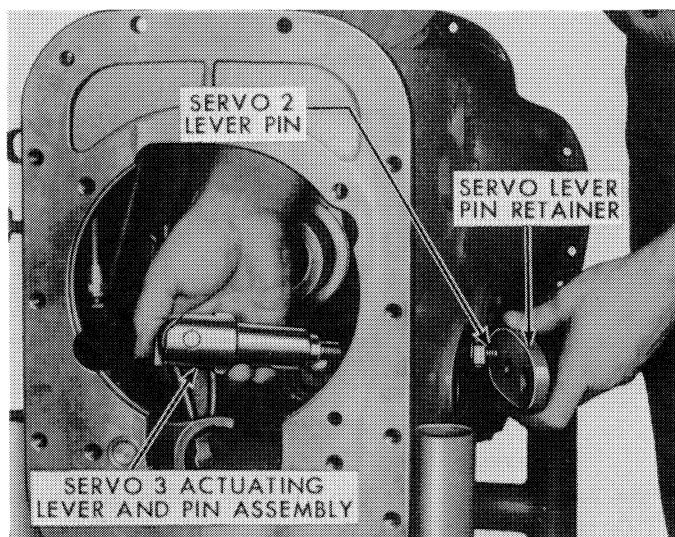

Figure 48
the right side of the transmission case. See Figure 48. Remove the transmission right inspection cover.
9. Remove the nuts, flat washers, and bolt from the servo 2 actuating lever pin and servo 3 actuating lever pin. Remove the retainer. See Figure 48. Remove the servo 3 lever and pin assembly. Remove the adjusting screw by threading it down through the case.
18. Remove the servo 2 actuating lever and pin assembly from the transmission case. Refer to Figure 48.
7. Install the servo 2 actuating lever and pin assembly in the case. Place the lever in the notch of the servo rod. See Figure 48.